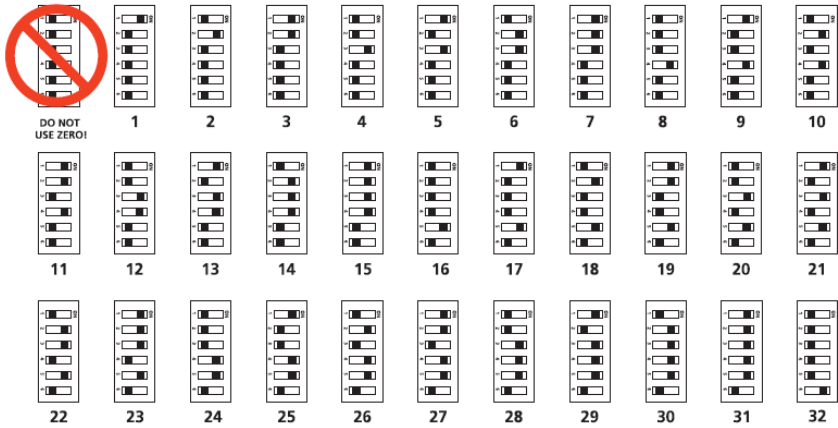

Figure 2.45 - Veris RGM meter Modbus ID (address) settings.
1. Choose a unique Modbus ID (address) different from any Inverter Modbus ID and set the switches for that ID as shown in Figure 2.45. Only Modbus IDs 1 through 32 can be used.